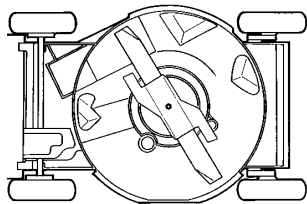

Figure 17
3. Tip the mower on its left side (Fig. 17). Avoid rotating the blade because starting problems may result.